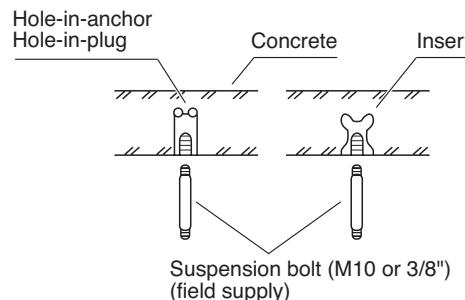

Fig. 3-48
(1) Fix the suspension bolts securely in the ceiling using the method shown in the diagrams (Figs. 3-48 and 3-49), by attaching them to the ceiling support structure, or by any other method that ensures that the unit will be securely and safely suspended.